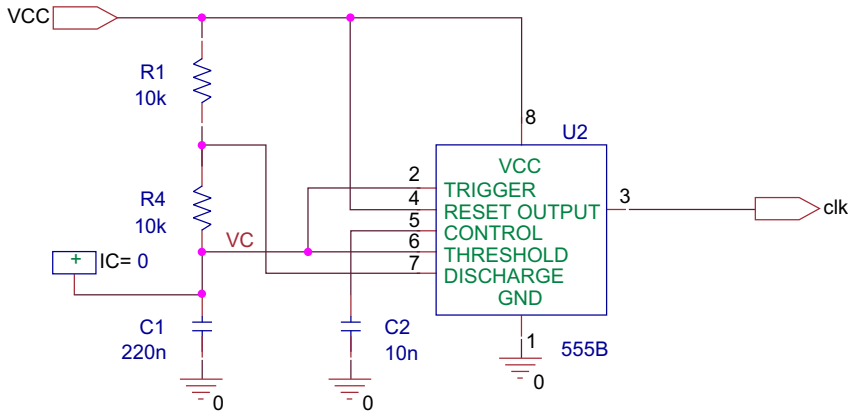
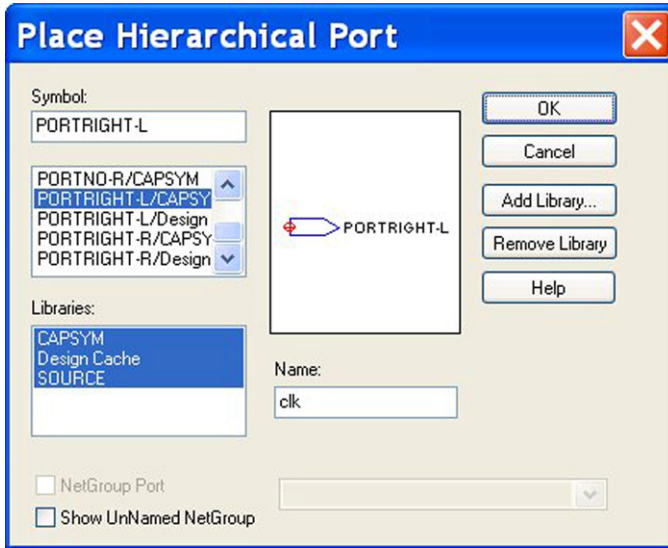

FIGURE 20.41
FIGURE 20.44
The modified clock and counter circuits that will be used are shown in Figures 20.41 and 20.42, respectively.
6. Select **Place > Hierarchical Port**. Select the PORTRIGHT-L and name it clk (Figure 20.44). Click on OK and add the port to the clock output node. Place a hierarchical port for VCC on the VCC node. It really is your choice as to which type of hierarchical port symbol you use for input and output ports. Your circuit should be similar to that in Figure 20.41.